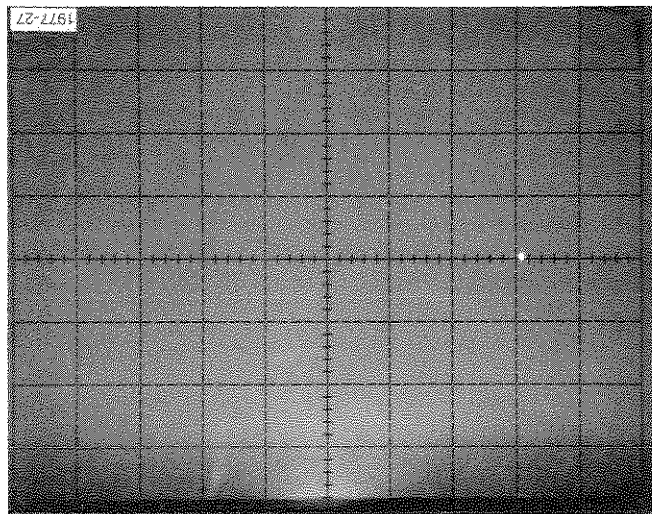

Fig. C-9. Display of output common-mode voltage.
- b. Note that when the DISPLAY—ZERO pushbutton is pressed and released, the dot on the crt graticule moves to a spot about 3 divisions to the left of graticule center, representing about 6 volts. The minimum output common-mode voltage specified for the 727 is -7 volts, the maximum is -4 volts, and -5 volts is listed as being typical (see Fig. C-9).